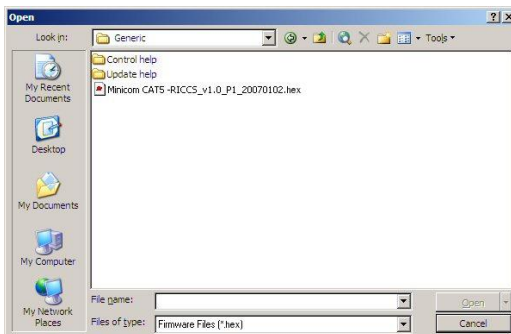

Figure 35 Open box
2. From the **File** menu, choose **Open**. The **Open** box appears. See Figure 35.